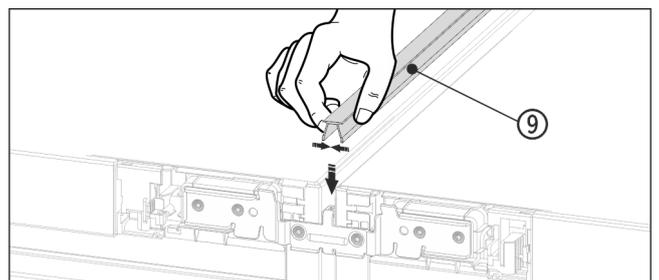

Fig. 20
- ▶ On the top press the short cover strip Fig. 20 (9) into the horizontal gap.